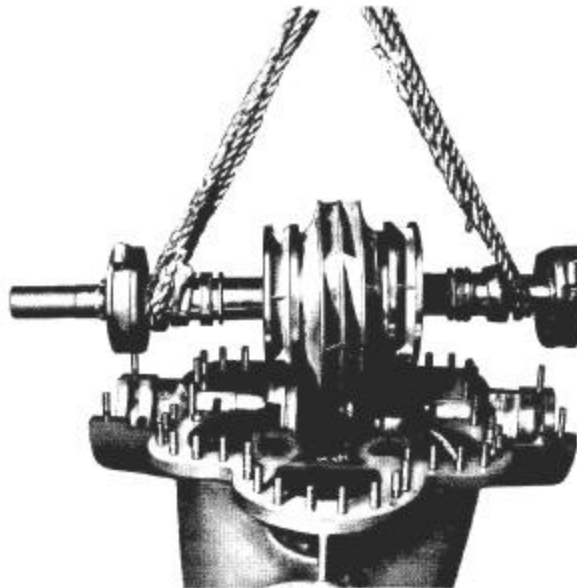
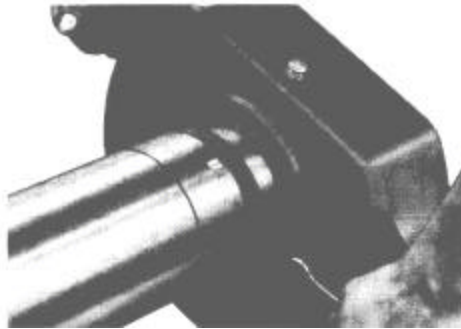

Fig.27 – Lift and extracting of rotor from inside the lower casing
Fig.28 – Extracting of external ring of bearing with screw
Pass a rope around the shaft between the gland covers and bearing housings and lift the rotor to extract it from lower casing. See fig. 27. Take care to not damage the studs (902.1) and that the extracting is done without effort due to friction or bent position of rotor. Extract coupling sleeve with a pull out device and the key (940.3). Loosen nuts (901.2) and bearing cover of drive side (360.1). For pumps with DN 400 mm or above, there are two extract holes M8 (5/16") in the rear part of bearing housings. By means of uniform tighten of two bolts relatively long in these tapped holes, remove external ring of bearing. See fig. 28. With a pull out device extract bearing housing for pumps DN 400 mm (16") or bigger, extract also internal ring of bearing and spacer ring (504). For pumps up to 300 mm extract bearing housing and also ball bearings. Loosen bolts (901.2) and bearing cover N.D. side (360.2). Unlock lockwasher (931) from bearing nut (923). Loosen bearing nut with key type nail or with pin. Extract with pull out device shaft from bearing housing, bearing (321) and spacer ring (504). Thereafter parts are symmetrical in both sides of rotating element and disassembly is similar. Extract wear rings (502); sealing rings for shaft (420); gland cover (452); gasket rings (461); lantern ring (458) and neck ring (457). Loosen screwed pins (940.1) and thereafter shaft nuts (921). Extract shaft protective sleeves (524), taking care not to damage the O-rings (412). Remove the keys (940.1); spacer sleeves (525.2) if any; spacer sleeves (525.1), except for pumps 200-500, 200-620 and 250-340 which do not have them. Take out the impeller (234) from the shaft and the key (940.2). Pumps DN 600mm (24") up to DN 800mm (32") have bearing brackets (330) fixed in the lower casing which can be disassembled loosening the nuts (920.8) and guide pins.